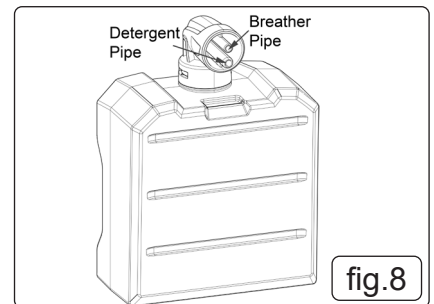

fig.8
6.7.5. Make sure you connect the detergent hose is attached to the cap (fig.8).